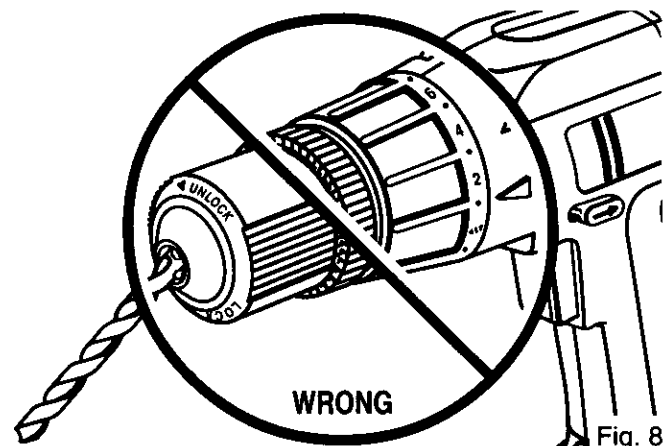

Fig. 8
**⚠ WARNING:** Do not insert drill bit into chuck jaws and tighten as shown in figure 8. This could cause drill bit to be thrown from drill resulting in possible serious personal injury or damage to the chuck.